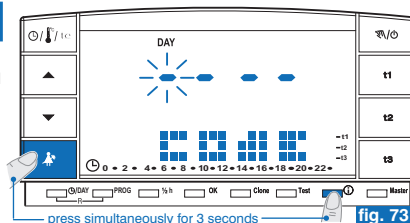

fig. 73
- To enter a password in normal chronothermostat operation, keep  and  pressed (for approx. 3 sec.). A **CoDE** message and the first hyphen to the left will blink on the display (fig. 73).
- If the password has been enabled and the user wants to enable a protected function, a **COD E** message and the first hyphen to the left will blink on the display (fig. 73).
- From normal chronothermostat operation, keep keys $\blacktriangle$ and ⓘ pressed (approximately 3 sec.). A **COD E** message and the first hyphen to the left will blink on the display (fig. 73).